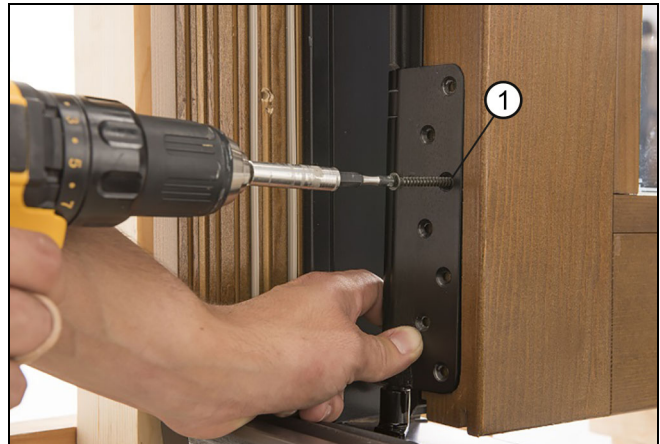

Figure 59
3. Locate the panels adjacent to any hinges numbered 1 and 2 then fasten. See Figure 59 and Figure 60.